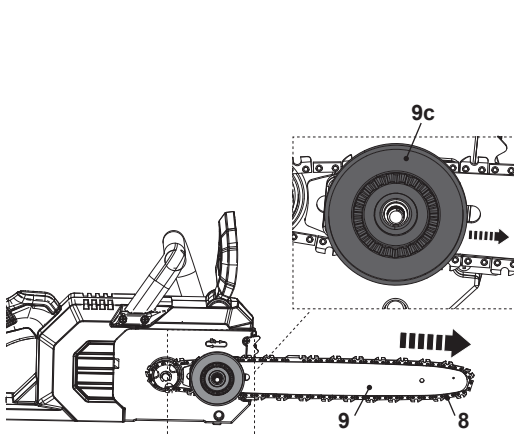

Fig. 5
7. Rotate the turning wheel (9c) clockwise to adjust the guide bar (9) towards the right to tighten the saw chain (8), then align and place the chain saw cover (12) over the mounting bolt (6) (Fig. 5, steps 1, 2).